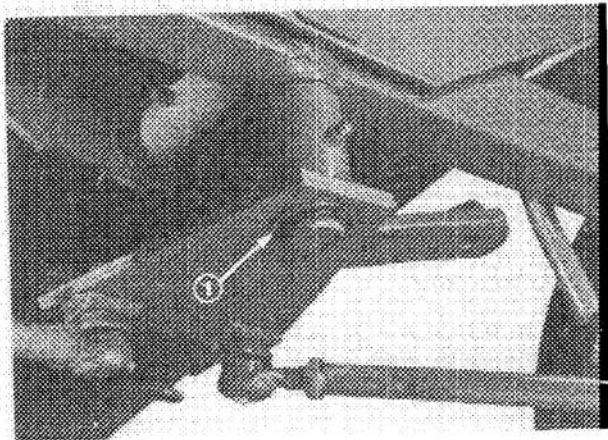

Figure 46
3. Remove snap ring and flatwasher and slide steering plate off mounting pin on bottom of axle (Fig. 46).
6. Slide steering plate onto mounting pin on bottom of rear axle. Secure plate in place with flatwasher and snap ring (Fig. 46).